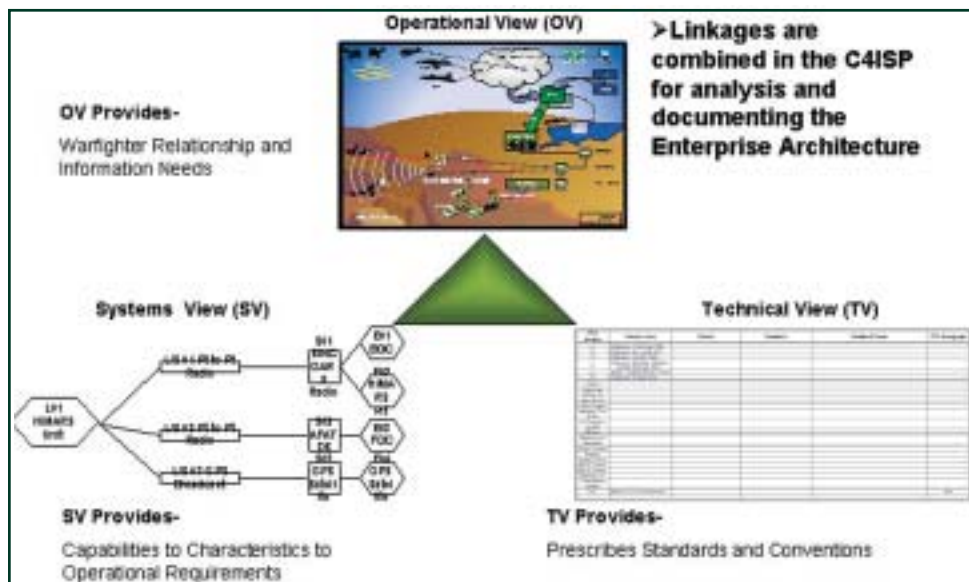

Figure 2.
The MCIAP contains elements of both the Operational View (OV) and Systems View (SV) products (shown in Figure 2). Since its initial development and release two years ago, the MCIAP has been continually improved. In addition to a notional MEF slice tactical lay-down, it now also depicts a Naval amphibious force and the shore-based Supporting Establishment. MARCORSYSCOM and other Service System Commands have found the MCIAP